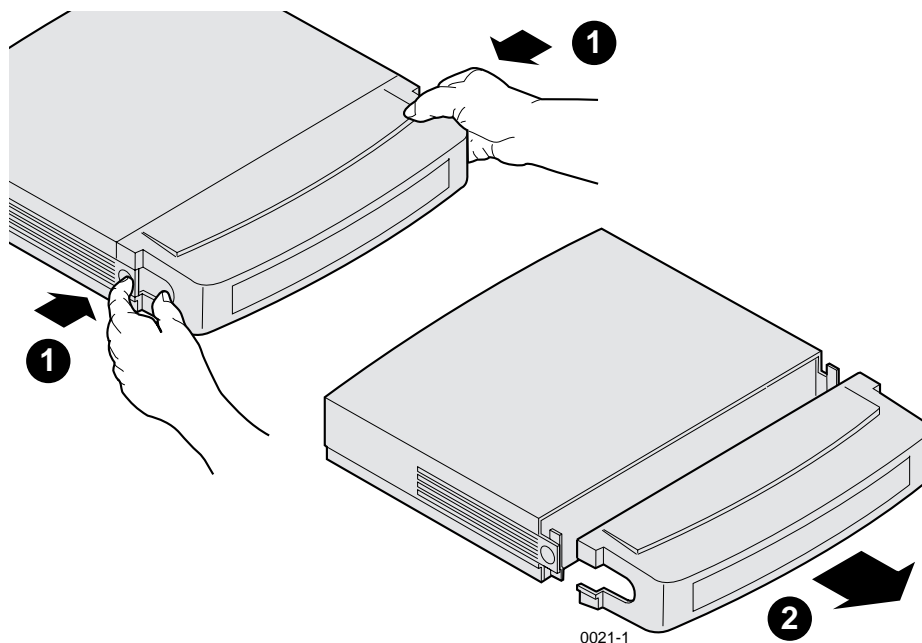

Figure 2. Removing the NC200 Cable Cover
2. **NC200:** Remove the cable cover from the rear of the Logic Module as shown in Figure 2.